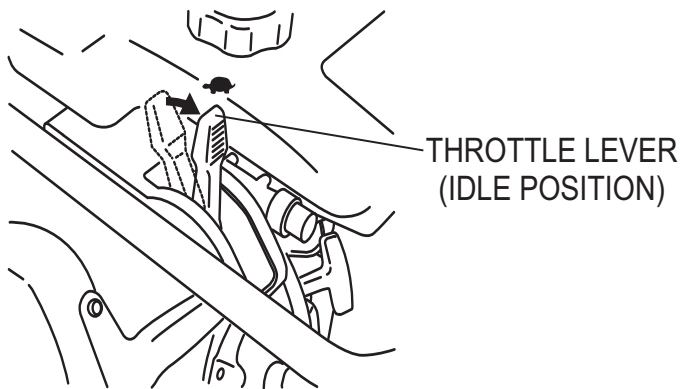

Figure 5-A. Throttle Lever (Idle Position)
1. Slide the throttle lever from the stop to the idle position (🐻) (Figure 5). This opens the fuel cock and the engine electrical circuit is turned on automatically.
2. **Units with Carburetor Primer System:** Push the primer pump bulb four (4) times to deliver fuel to the carburetor (Figure 5-B).